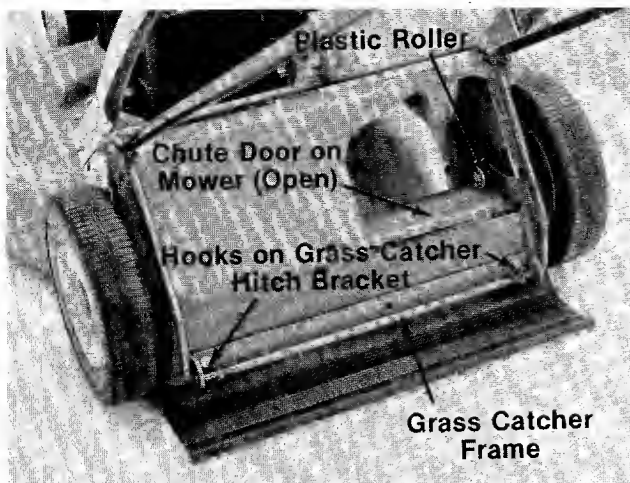

FIGURE 17.
- ← 1. Attach the grass catcher frame to grass catcher hitch bracket on rear of the mower by hooking grass catcher into hooks on grass catcher hitch bracket. See figure 17.
2. Lift the rear of grass catcher up. The roller on the grass catcher will push the chute door on the mower open. See figure 17.
Figure 17 is shown with the chute door open for photo clarity only.